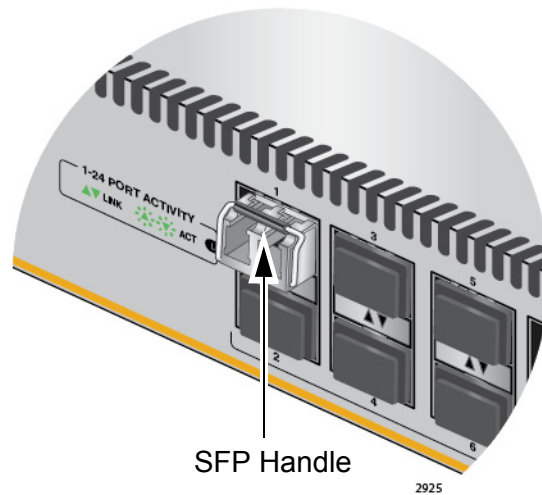

Figure 70. Positioning the SFP Handle in the Upright Position
6. Verify the position of the handle on the SFP transceiver. If the transceiver is in a top slot, the handle should be in the upright position, as shown in Figure 70 on page 123. If the transceiver is in a bottom slot, the handle should be in the down position.